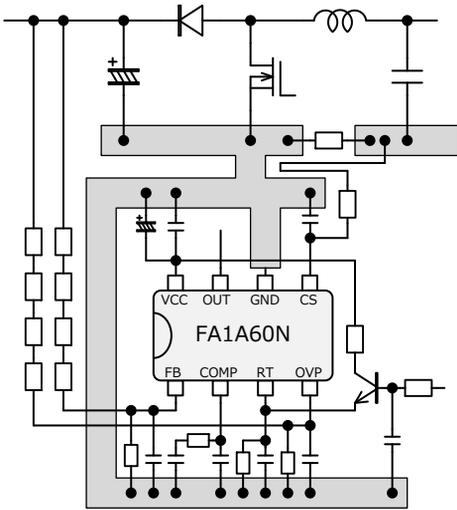

Fig.42 Good example of GND wiring around IC
- Separate the signal circuit GND and the main circuit GND, and connect both GND at the current sense resistor Rs.(Fig.42)